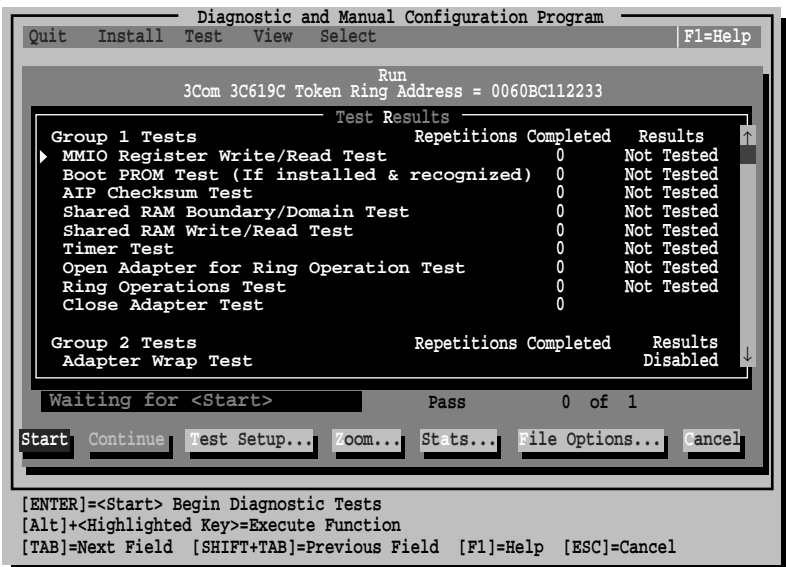

Figure 7-4 Run Tests Dialog Box
The Run Tests dialog box appears, similar to the one shown in Figure 7-4.
- 1 Choose the <Test Setup> command button in the Run Tests dialog box shown in Figure 7-4.
If any test fails, you can get additional information by highlighting the test that failed in the Run Tests dialog box shown in Figure 7-4, and pressing [Enter]. You can also highlight the <Zoom> command button and press [Enter]. The program notifies you of the error and suggests actions you can take to solve the problem.